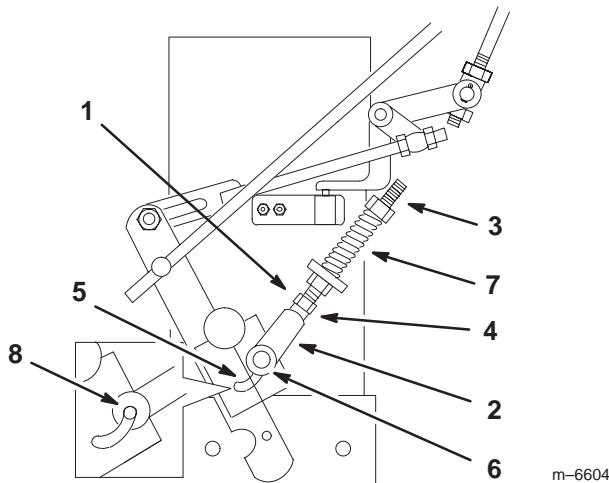

Figure 55
- Adjust the left and right neutral stud until the clevis pin in the yoke touches the back end of the slot in the control arm (Fig. 55).
7. Loosen the nut against the yoke (Fig. 55).